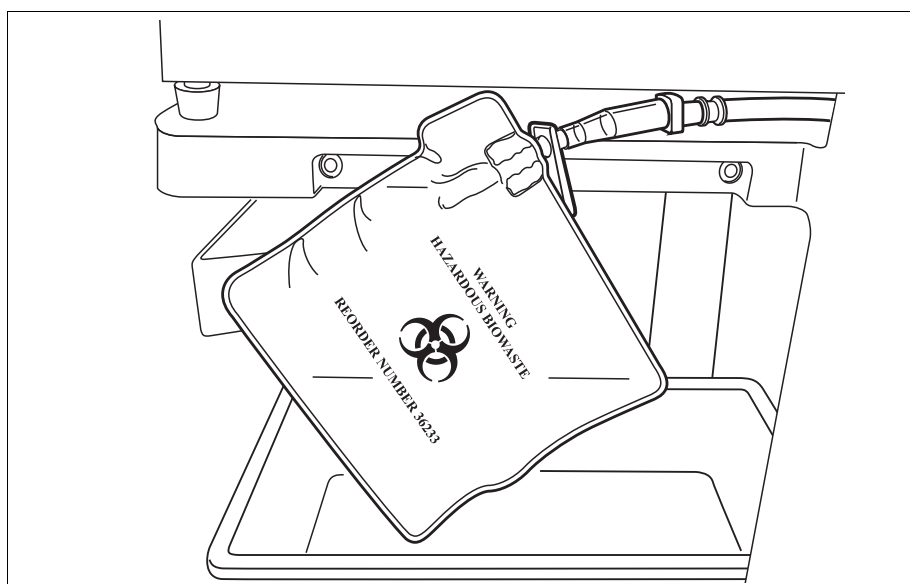

Figure 48, Allowing the biohazard waste bag to hang out of the tray
3. Ensure that there are no kinks or twists in the tubing and allow the bag and its tubing to hang from the drain tube (See Figure 48).